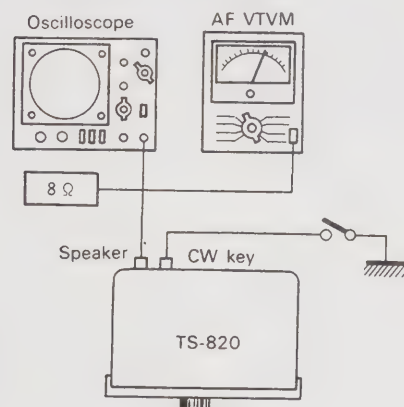

Fig. 39 Adjustment of side tone
- 1) In **Fig. 39**, adjust VR3 in AF • AVR unit (X49-1080-00) until AF output becomes 50 mW (0.63 V/8 Ω) with the key down (refer to **Fig. 28**).